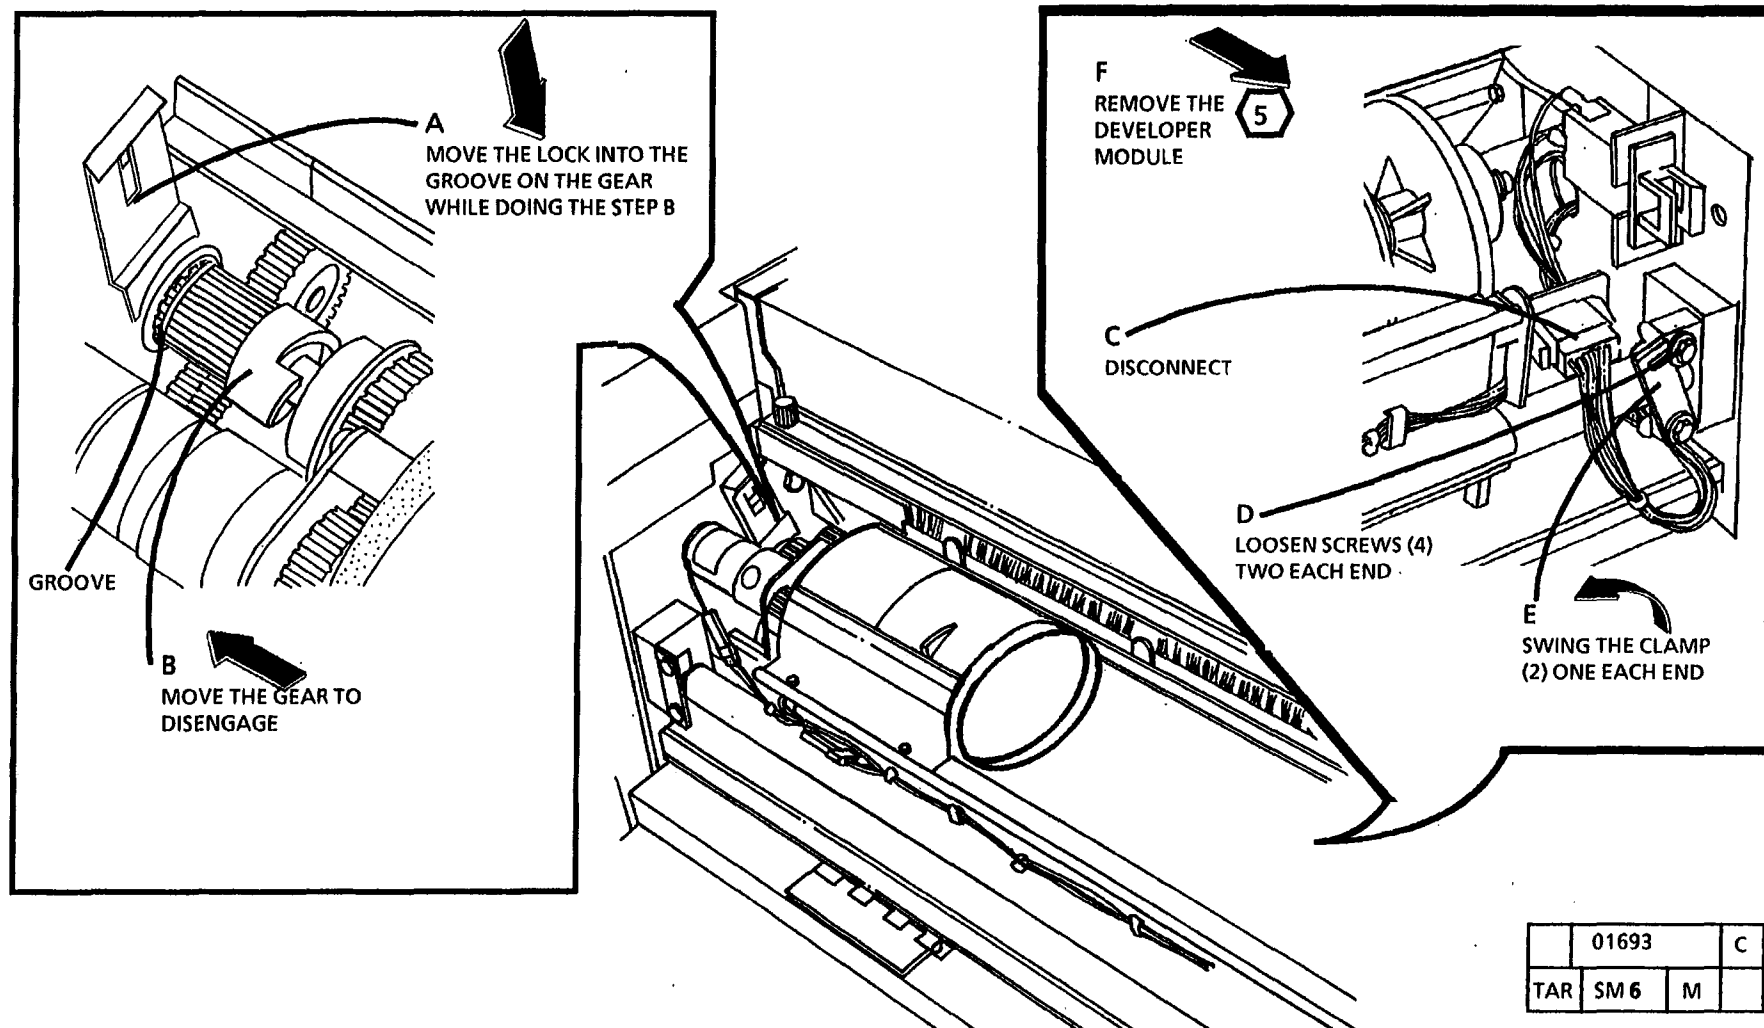

Figure 7. Remove the Developer Module
13. (Figure 7): Remove the Developer Module.